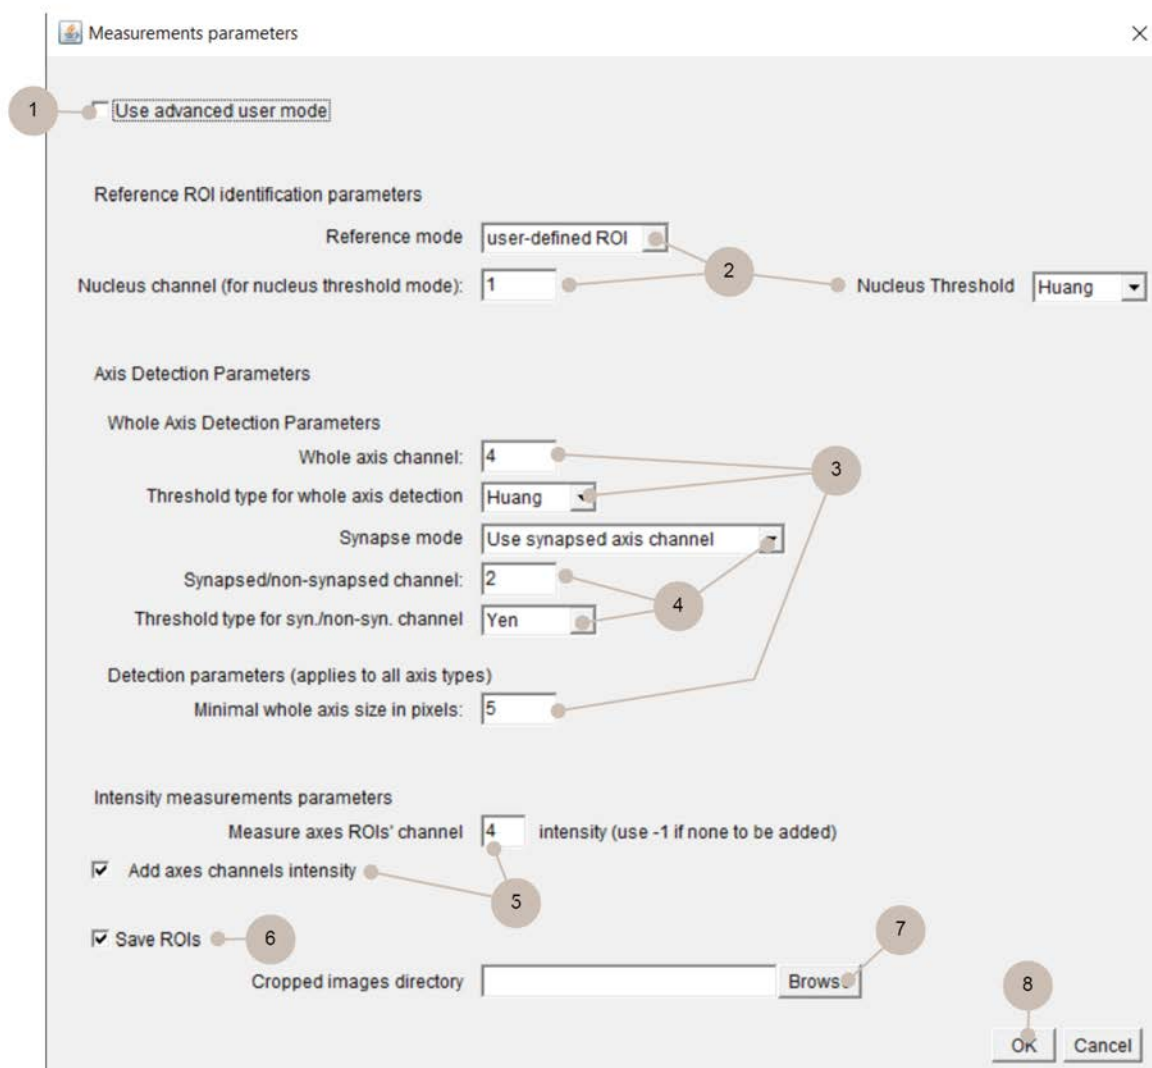
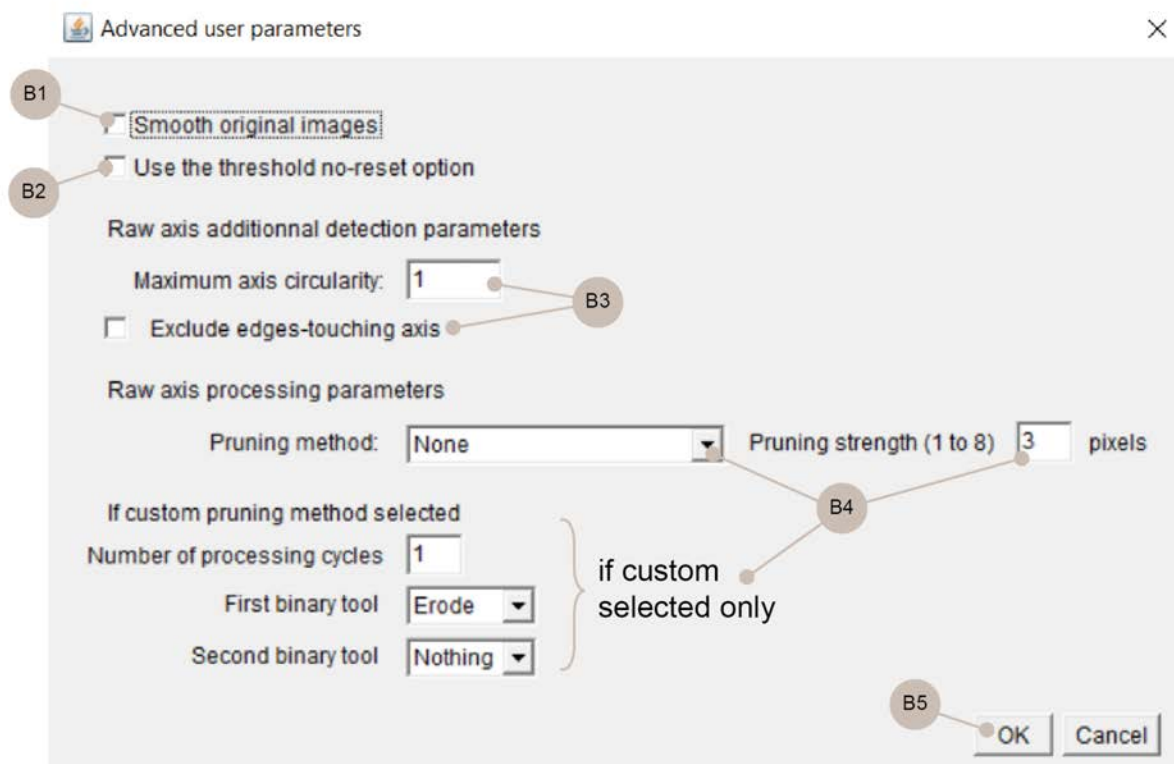

Figure 5.2. The Measure Synapse Length menu.
Figure 5.7. The Advanced user parameters menu
**STEP 1.** If working with noisy images, it's recommended to use the advanced user mode (figure 5.2, this option involves → **OPTIONAL STEP B**, see below for a detailed description of this mode) and tick the "smooth original images" option in the "Advanced user parameters" menu that appears after clicking OK at **STEP 8** (fig. 5.7). Select this checkbox if pruning is needed (see figure 5.1).
➔ **OPTIONAL STEP B.** To improve the detection of the whole axis and synapsed/non-synapsed axis, you can use the advanced user mode option (fig. 5.2, **STEP 1**). After selecting this option, a new menu will appear when you click OK in **STEP 8**.
**OPTIONAL STEP B.** Advanced user options can be used to get accurate axis detection. This is very useful for either noisy images and/or superresolution images. Whenever the “Use advanced user option” is chosen, the “Advanced user parameters” window will pop up at **STEP 7** (figure 5.7).